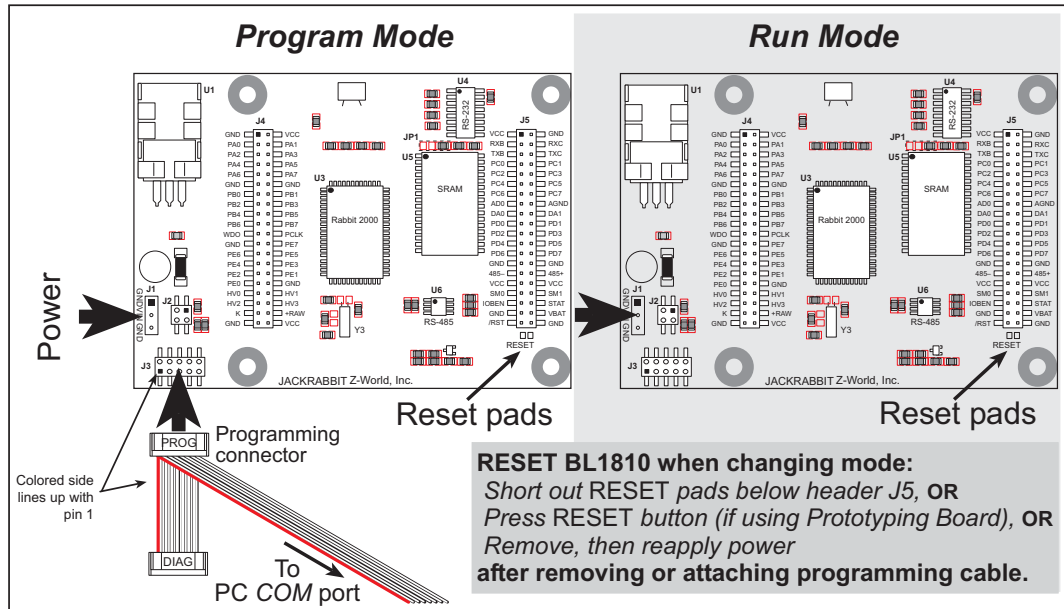

Figure 5. BL1810 Program Mode and Run Mode Setup
The BL1810 is automatically in Program Mode when the programming cable is attached, and is automatically in Run Mode when no programming cable is attached. See Figure 5.
2. Reset the BL1810. You may do this as explained in Figure 5. Figure 6 shows the location of the RESET button on the Prototyping Board.
2. Reset the BL1810. You may do this as explained in Figure 5. Figure 6 shows the location of the RESET button port on the Prototyping Board.